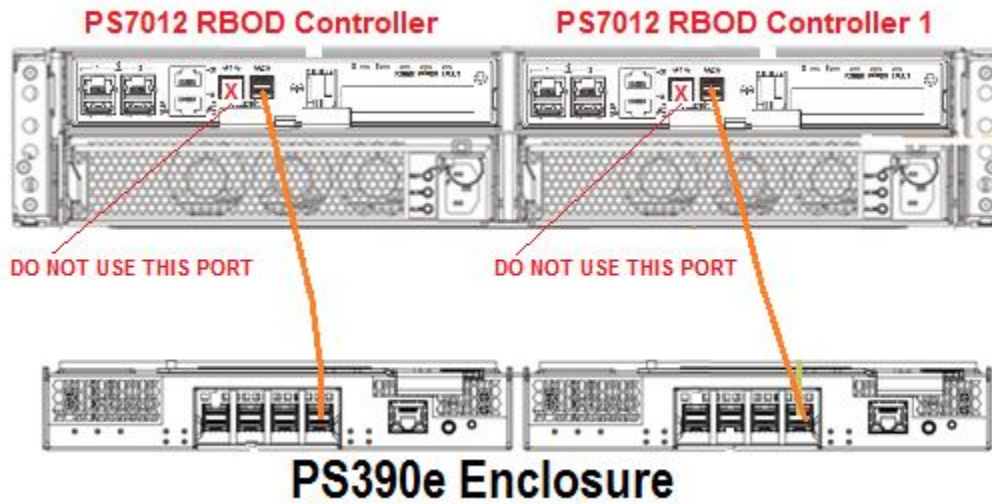

Figure 19: SAS cable connection to PS390e
1. Connect SAS cable from first PS312e2 JBOD controller to PS7012's **right hand side** SAS connector only as shown above. Similarly connect the SAS cable from the right most SAS port of PS390e canister to the right most SAS connector of PS7012 as shown in Figure 19.